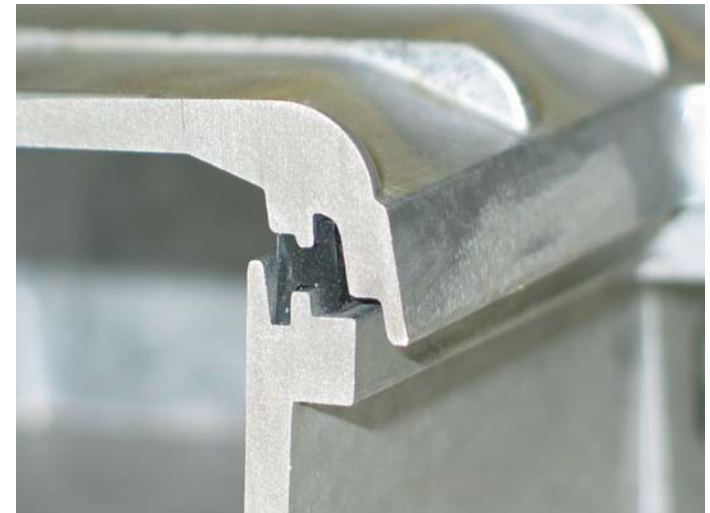

Fig 1.1 WRAP box section and gasket cross-section
- c) Place the silicone rubber gasket into the base gasket channels. The gasket forms a perfect seal only if installed like in Fig 1.1. Please note that if gasket is installed upside down, the seal will not be perfect!!!!